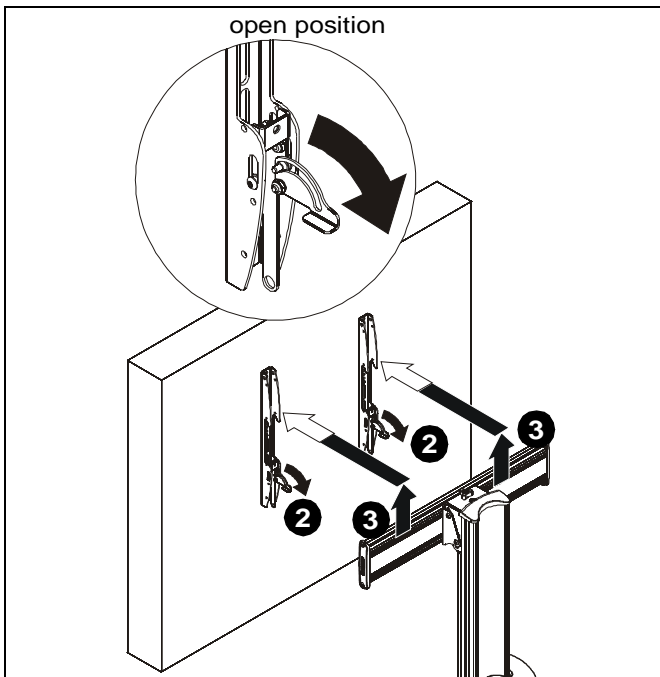

Figure 20
2. Position latches on interface uprights so that they are in the "open" position. (See Figure 20)
3. Carefully lift display from cart. (See Figure 20)